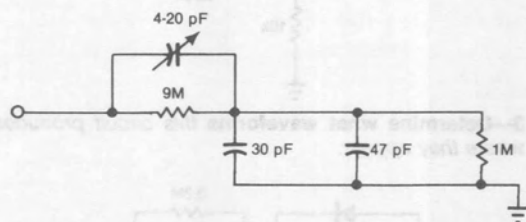

Fig 2—What function might this network serve? Determine its response characteristics.
3. Determine the response characteristics of the network shown in Fig 2. What useful function might such a network serve? Why?